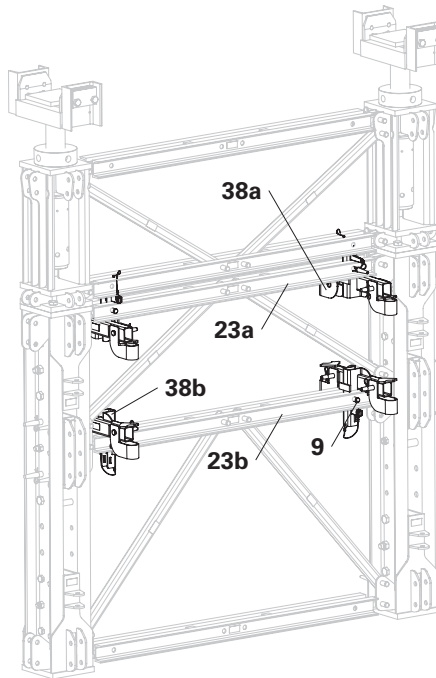

Fig. B6.01a
2. Secure connectors UP-VST (38) with fitting pins Ø 21 mm (9) or PERI wedge K (40). (Fig. B6.01a + B6.01b)
4. Secure connectors UP-VST (38) with fitting pins Ø 21 mm (9) or PERI wedge K (40). (Fig. B6.01a + B6.01b)